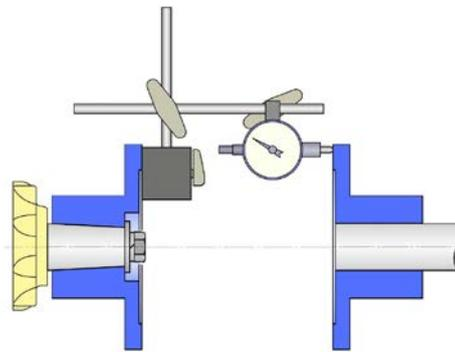

Fig.5.2 Shaft declination
2) Declination (Refer to Fig.5.2)
Shaft declination is measured using a dial gauge indicator as shown in Fig. 5.2. Attach the dial gauge indicator to the hub flange and measure the declination of the opposite side hub while turning the hub flange.